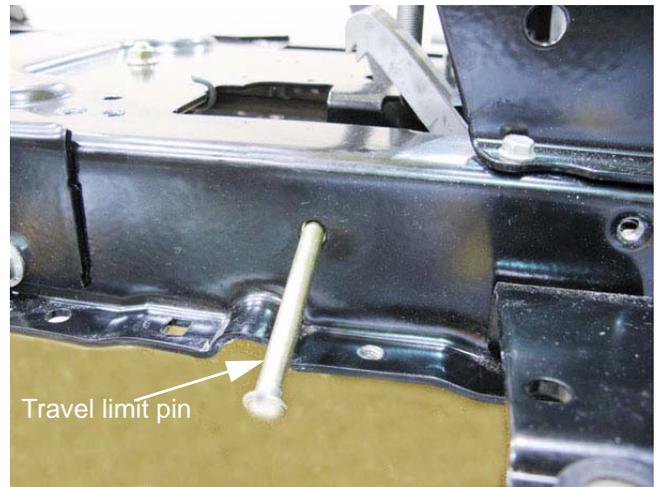

Figure 5.21
- A travel limit pin passes through curved slots in both of the latch plates. The pin is blocked into place by the fenders. See Figure 5.21.